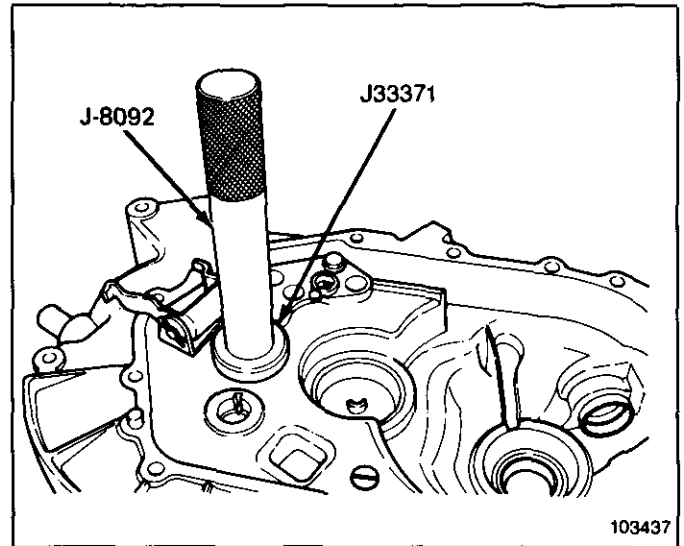
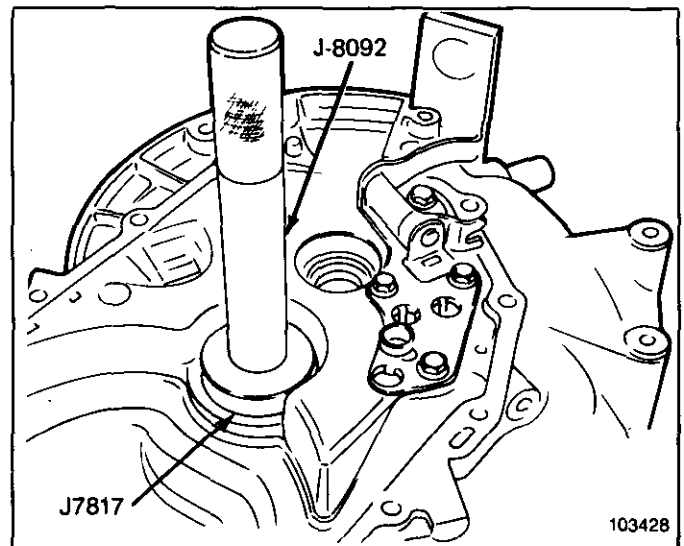
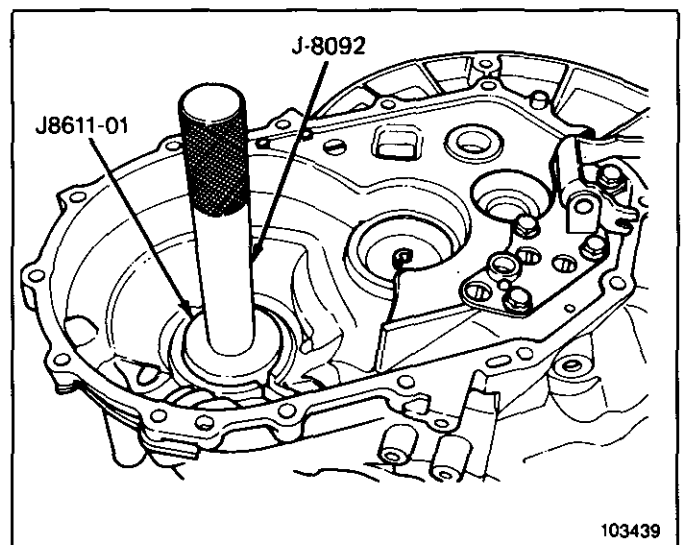

Figure 39 Frt. Input Shaft Brg. Race
Figure 40 Frt. Output Shaft Brg. Race
Figure 41 Frt. Differential Brg. Race
2. Install the front outer bearing races for the input shaft, output shaft and differential into the clutch housing. Apply oil to the bearing races before installation. Using J-33371 with driver handle J-8092, press input race into housing (Figure 39). Using J-7817 with driver handle J-8092, press output race into housing (Figure 40). Using J-8611-01 with driver handle J-8092, press differential race into housing (Figure 41).